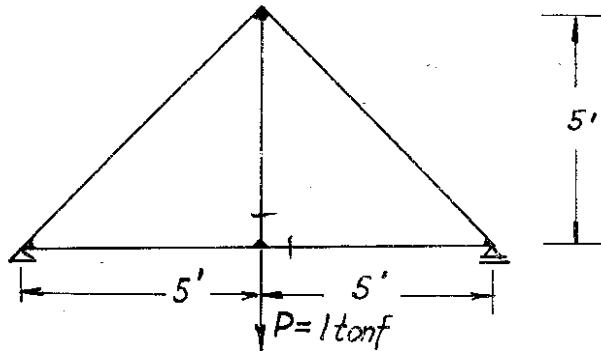

Figure 7
7. The members of the simply supported truss shown in Figure 7 are rigidly connected at all nodes. Find the expression for bending moment induced at the point of application of the vertical load  $P = 1 \text{ tonf}$ . All the members have the same cross-sectional area  $A$  and the same constant  $EI$ .